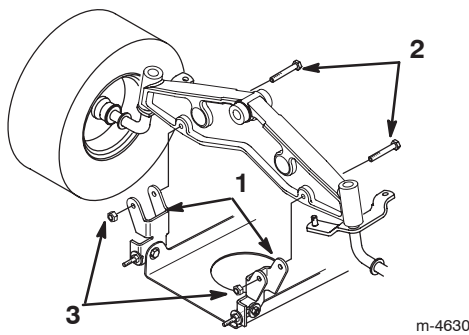

Figure 37
8. Remove the bolts and lock nuts and pull the two mower pivot mount brackets down from the front axle (Fig. 37).